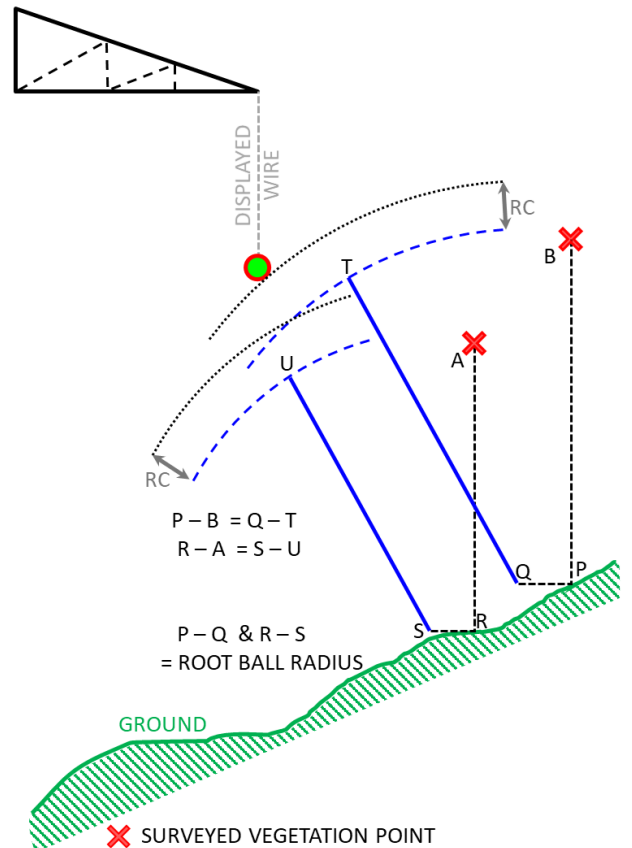

Figure 3: Falling tree check
The clearance of a wire to a falling tree is checked as indicated to the right (Figure 3). The assumption made for each vegetation point is that it is potentially the top of a tree. **PLS-CADD** automatically locates the base of the assumed tree on the TIN surface (P for point B and R for point A). It further assumes that a falling tree rotates as a rigid body about the edge of its root ball (Q for Tree P-B and S for Tree R-A). The user enters both the radius of the root ball (as a percentage of the tree height above ground) and the required clearance (RC) between the position of the wire and the circular trajectory of the top of the falling tree.
- Input for the root ball radius. This parameter is defined as a percentage of the tree height. The root ball radius defines the rotation point of the base of the tree as shown in Figure 3.